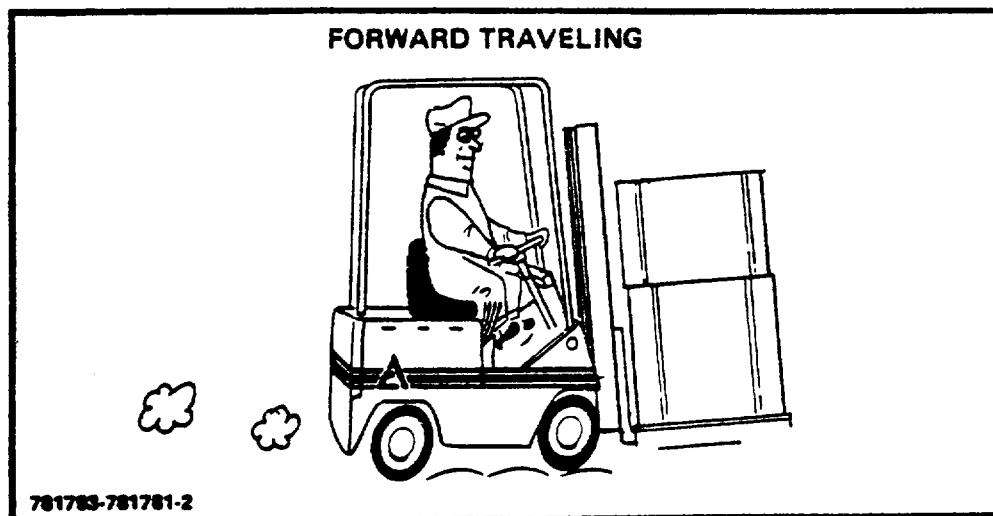

Figure 3-8. Traveling in the Forward Direction with a Loaded Lift Truck
(1) The load should always be carried cradled against the backrest and as low as possible for maximum stability and vision (Fig 3-8).